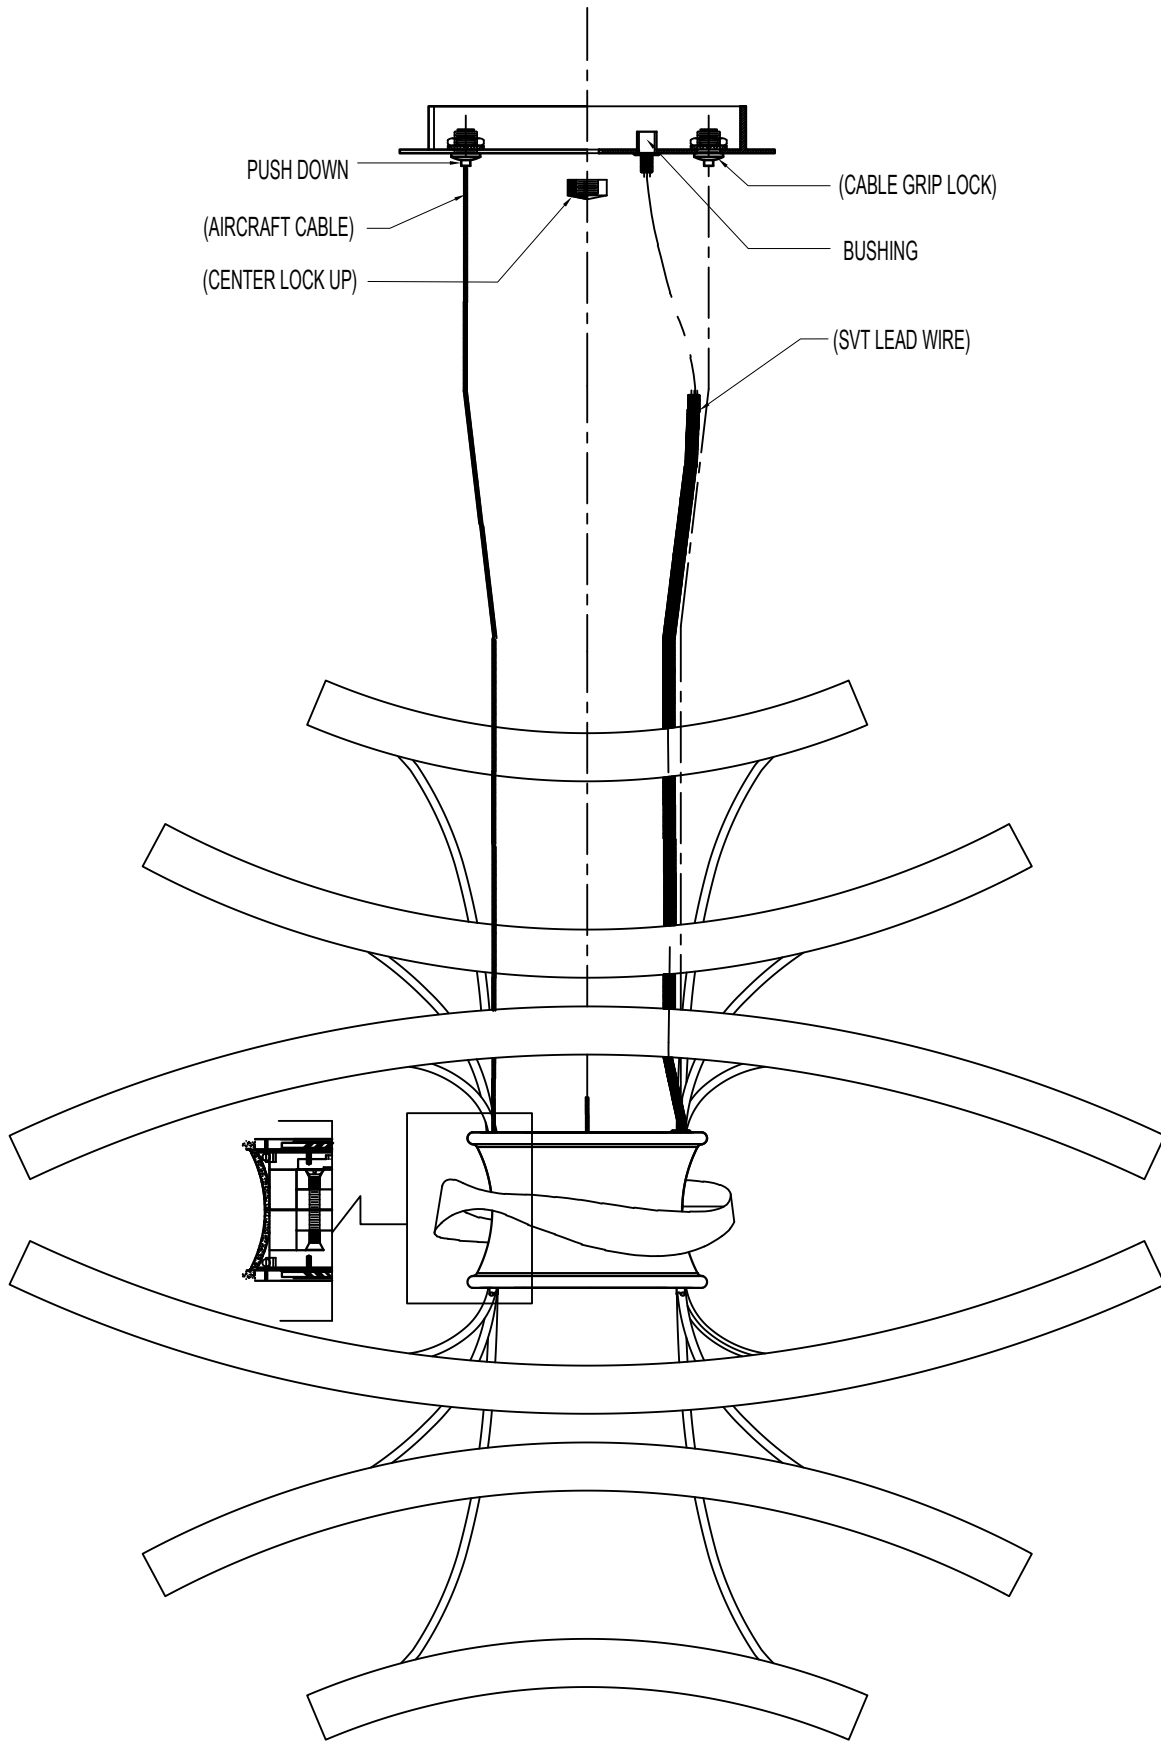

FIGURE- 4
3. To change the drop height based on your desired height, push the tab down on the grip post either pull or push the aircraft cable. Repeat this to all aircraft cable until the fixture is level and with the desired height. (Refer to Figure-4)
4. Adjust the SVT wire base on the desired height. Pull/push the SVT wire to the bushing and leave 8" lead above the canopy and cut the excess wire. (Refer to Figure-4)